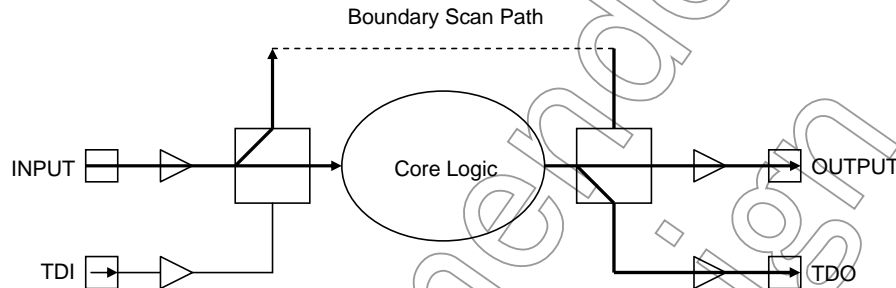

Figure 6.4.2 Test Data Flow While SAMPLE is Selected
- SAMPLE allows the input and output pads of an IC to be monitored. While it does so, it does not disconnect the system logic from the IC pins. The SAMPLE function occurs in the Capture-DR controller state. An example application of SAMPLE is to take a snapshot of the activity of the IC's I/O pins so as to verify the interaction between ICs during normal functional operation. The flow of data for the SAMPLE phase of the SAMPLE/PRELOAD instruction is shown in Figure 6.4.2.